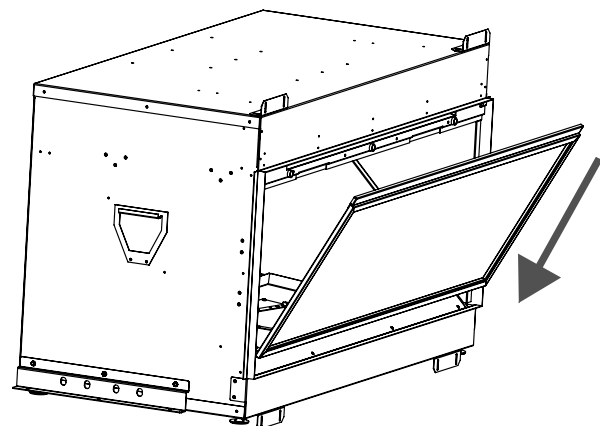

Figure 21: Safety Screen Install
3. Angle the Safety Screen assembly into the front gap as shown in Figure 21 and rotate it back into place.